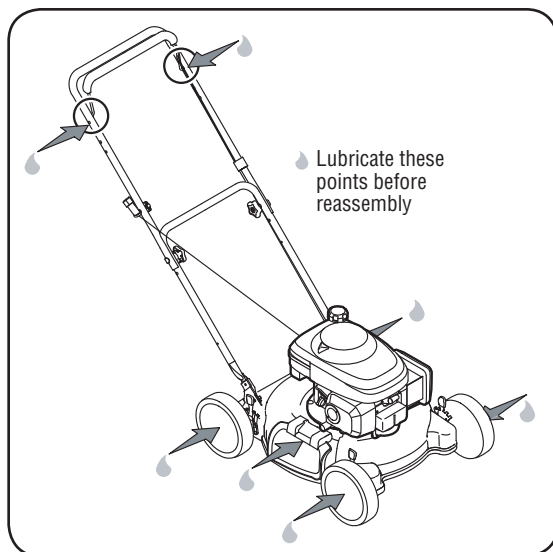

Figure 6-1
1. Lubricate the pivot points on the blade control handle at least once a season with light oil. The blade control must operate freely in both directions. See Figure 6-1
3. Lubricate the torsion spring and pivot point periodically with light oil to prevent rust. See Figure 6-1.